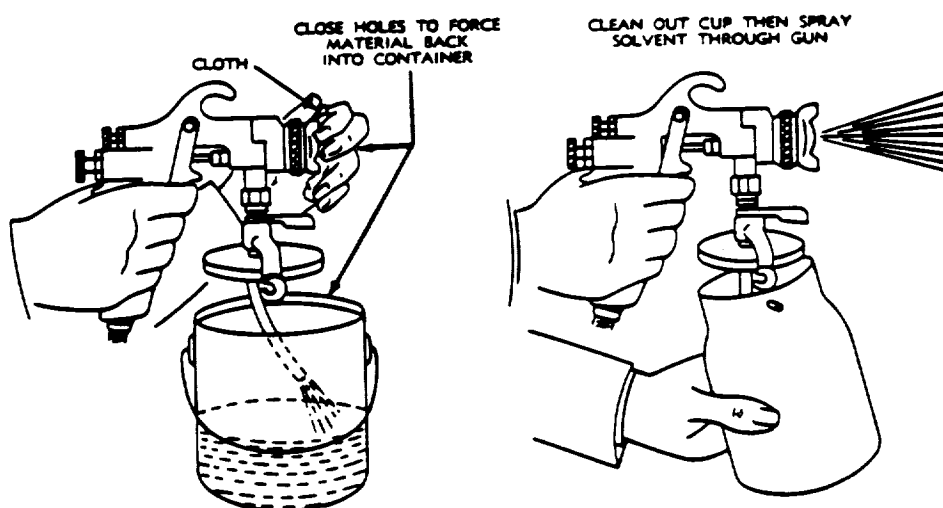

Figure 5-10. Spray Gun Cleaning
b. Suction Cup Type. Remove the cup, keeping the fluid stem inside the cup or container, as shown in figure 5-10, then hold a cloth over the air cap and pull the trigger. This directs air into the fluid passageways, and blows any paint that may be in the gun back into the container. After cleaning out the cup, clean the gun by spraying a small amount of clean naphtha or thinner through it. Extreme care should be exercised in the removal of the fluid tip so as not to split the tip or otherwise injure it or the fluid needle. When loosening the fluid tip, the trigger of the gun should be compressed so that the needle is not in contact with the tip; this eliminates the possibility of splitting the tip due to friction or sticking that is caused by dried paint. The entire spray gun should never be immersed in naphtha or thinner, as this removes lubricants and dries out the packing. Under no circumstances should the air or fluid ports of a gun or nozzle be reamed with any substance harder than soft wood, as a deformation of the spray pattern may result, and the spray gun may be rendered useless. To prevent wear, the working parts of guns should be kept lubricated with light machine oil. This requirement is especially true of the needle. The needle packing should also be kept pliable with an occasional drop of light lubricating oil.